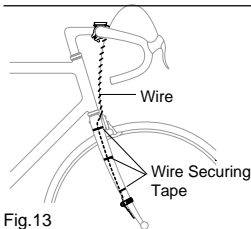

Fig. 13
- Secure the wire with tape as in Fig. 13. Wind the wire round the outer cable upto the handlebar. When adjusting the length, be careful that the wire will not hinder handlebar operation.